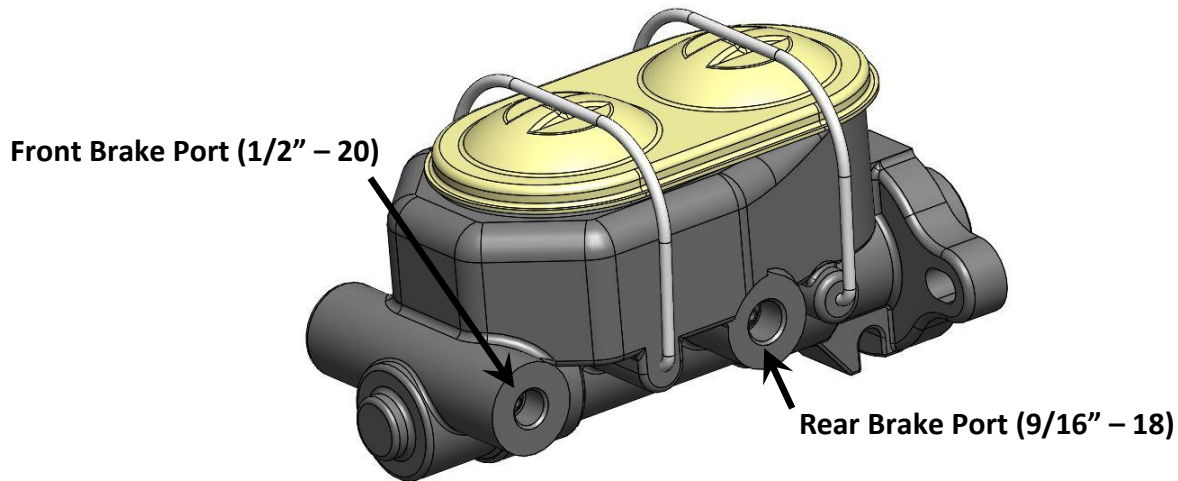

Figure 3 - Brake Line Orientation
8. Route the brake lines from the master cylinder to whatever valve is being used in the system. Refer to Figure 3 below for proper orientation of the brake lines to the master cylinder. If installing with a Master Power Brakes Combination Valve and bracket, refer to those instructions on proper plumbing of the valve.